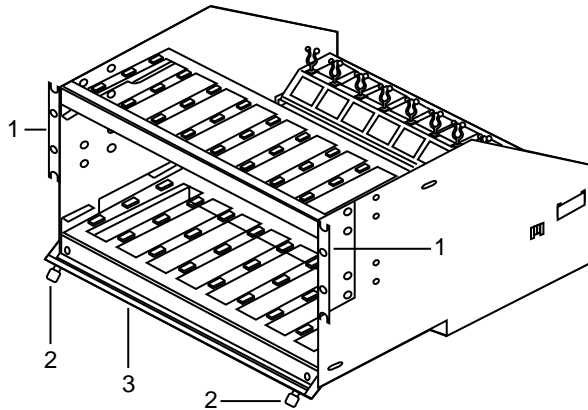

FIGURE 8-16. Reposition the Brackets
1. For new installations, mount the 77A Data-Mounting in the cabinet or frame where it will be used. Note that the 77A has **mounting brackets** (1 in Figure 8-16) screwed to the outside of its left and right sides. Reposition those brackets as appropriate to fit a 19- or 23-inch (47.5- or 57.5-cm) cabinet.
2. From the front of the rack, pull out the left and right **plungers** (2) that hold the horizontal **retaining bar** (3) against the rack. Pull the retaining bar out and down so that you can insert the data modules.